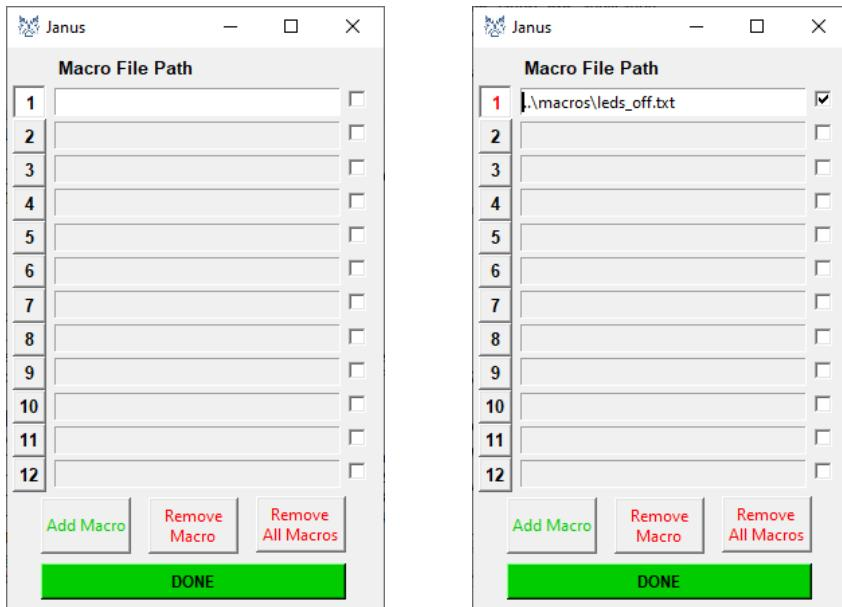

Fig. 3.4: "Load Macro" window.
- **Load Macro:** Additional settings can be loaded by means of a .txt file and appended in the configuration of FERS (see **Fig. 3.4**). See for example, in the "macros" folder, the file "leds_off.txt". To select a macro, click on "Add Macro" button and select the specific file. Once ready, press the "DONE" button to upload the macro. Finally, click on "Remove Macro" and "Remove All Macros" to remove one selected macro or all macros, respectively.